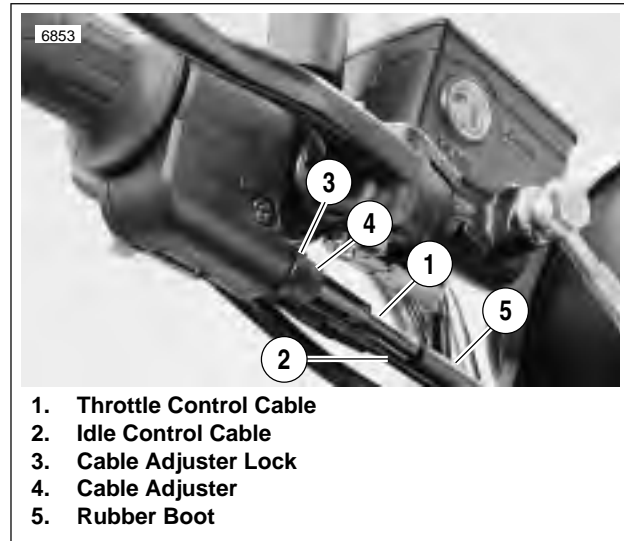

Figure 2-81. Throttle Control Cables
1. See Figure 2-81. Slide rubber boot (5) off the cable adjusters (4). Loosen cable adjuster lock (3) on each adjuster.